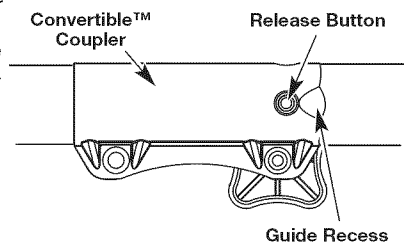

Fig. 6
NOTE: Aligning the release button with the guide recess will help installation (Fig. 6).
2. Press and hold the release button (Fig. 6).